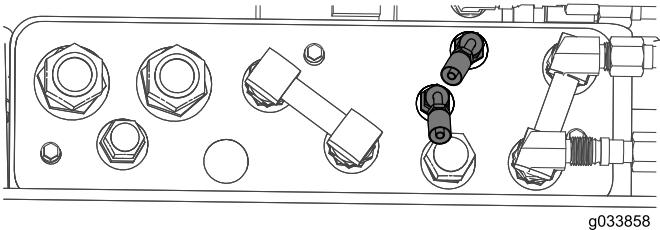

Figure 8
2. Ensure that the fittings on the hydraulic attachment panel are installed as shown in Figure 8.